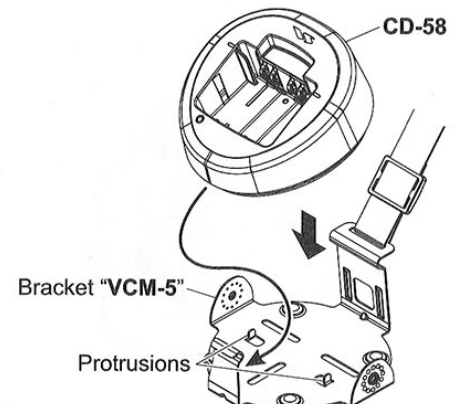
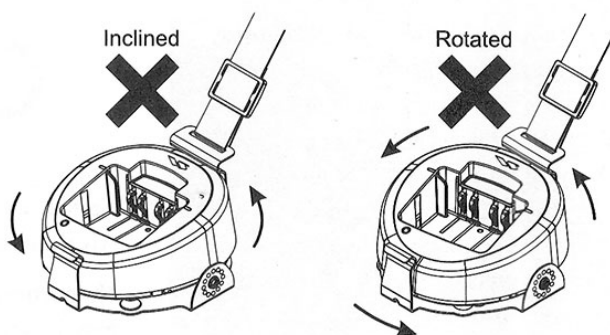

FIGURE 3
FIGURE 4
4. Insert the front section of the **CD-58** Desktop Charger into the Bracket "**VCM-5**" until it locks in place with a "click" (Figure 3). Confirm that the small protrusions of the Bracket "**VCM-5**" is fixed correctly into the holes which are located on the bottom of the **CD-58**. The **CD-58** must not incline and/or rotate (Figure 4).